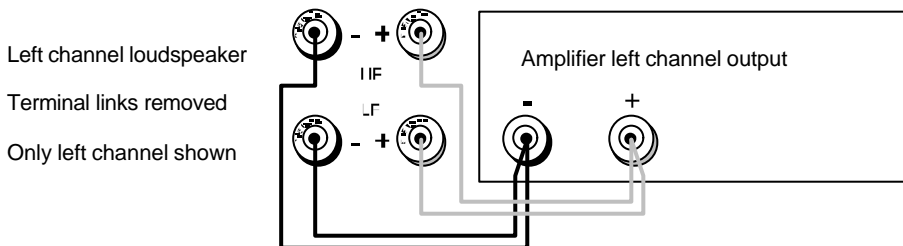

Figure 4 Loudspeaker Connections for Bi-wiring
Bi-wiring improves sound quality by separating the current paths for Low (LF) and High (HF) frequencies. Make the connections as shown below (Fig 4). Store the terminal links safely.